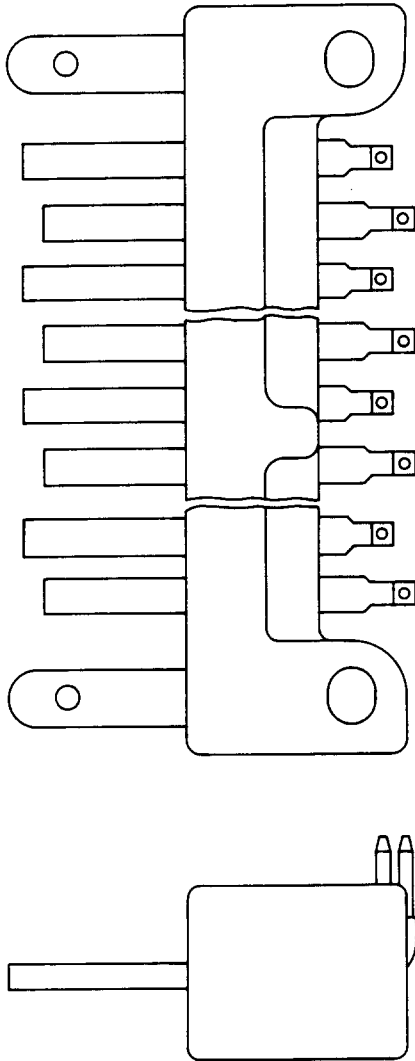

Fig. 4—503A Plug
2.03 503A: The 503A plug (Fig. 4) consist of a molded block of insulating material that contains terminals arranged for solder connections in the rear. The 503A plug mates with the 903A connector and is used in the J99271A Repeater.